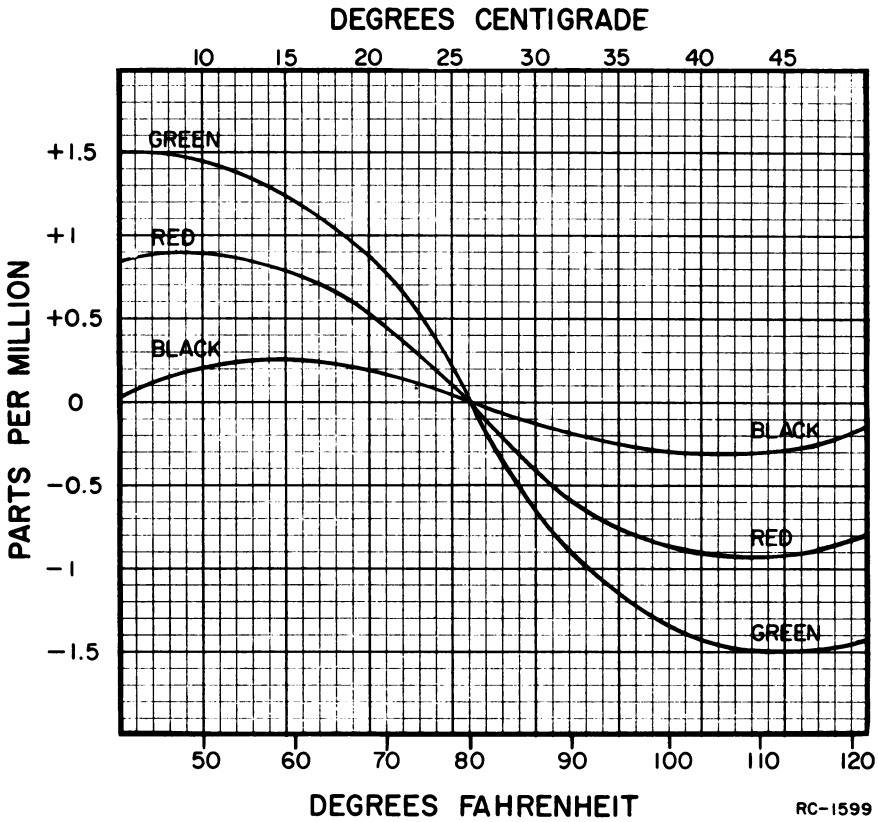

Figure 7 - ICOM Correction Curves
- 4. If the temperature is not within the 80°F (±4°F) or 26.5°C (±2°C) range, use the correction curves of Figure 7 for setting the ICOM frequency as follows:
- b. Multiply the frequency stenciled on the ICOM by 3 and then multiply this figure by the correction factor (from Figure 7) observing the sign (±) given to the correction factor.